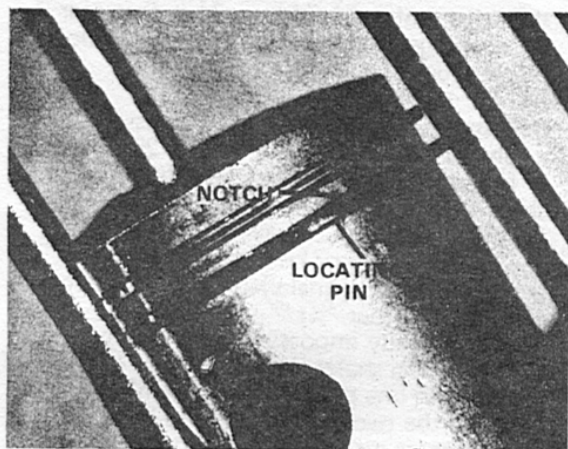

Fig. 21
34. Check to see that the piston rings are properly installed. The chrome plated ring is the upper ring and the cast iron ring is the lower ring. The rings are to be positioned on the piston so that the locating pin on the piston is located in the ring gap. (Figure 21) The notch in the ring gap should face up. If the notch faces down, the rings cannot be compressed enough to permit installation of the cylinder.